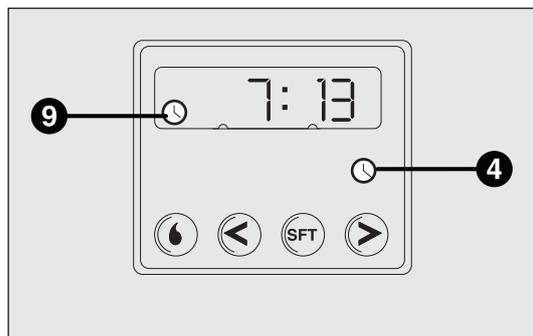

fig. 58
- Press button 4: the display and the warning light 9-fig. 58 will come on.
Reading the current time fig. 58